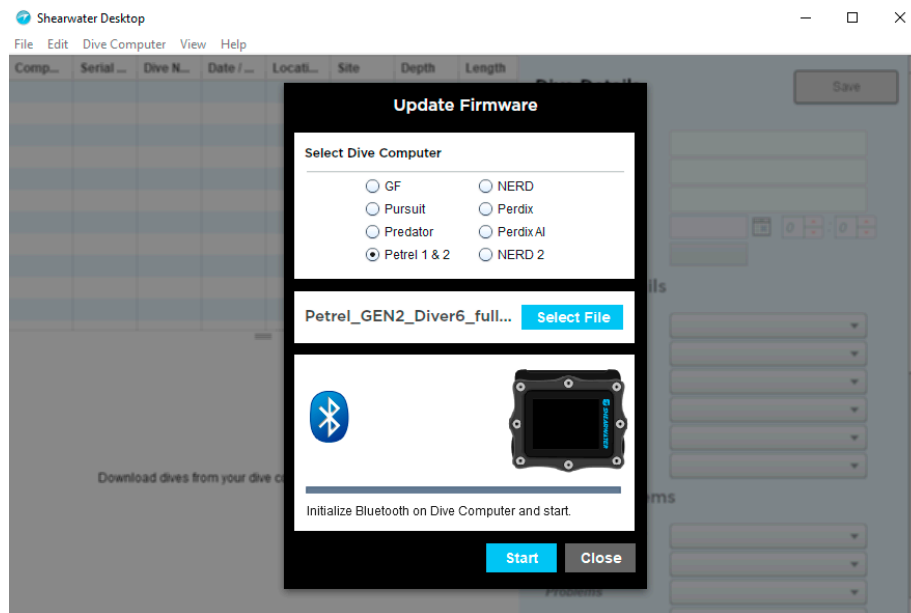

Figure 88: Shearwater Update Screen
2. Simply double click on the firmware file and the Shearwater Desktop software should automatically run and present you with the “Update Firmware” screen (Figure 88)